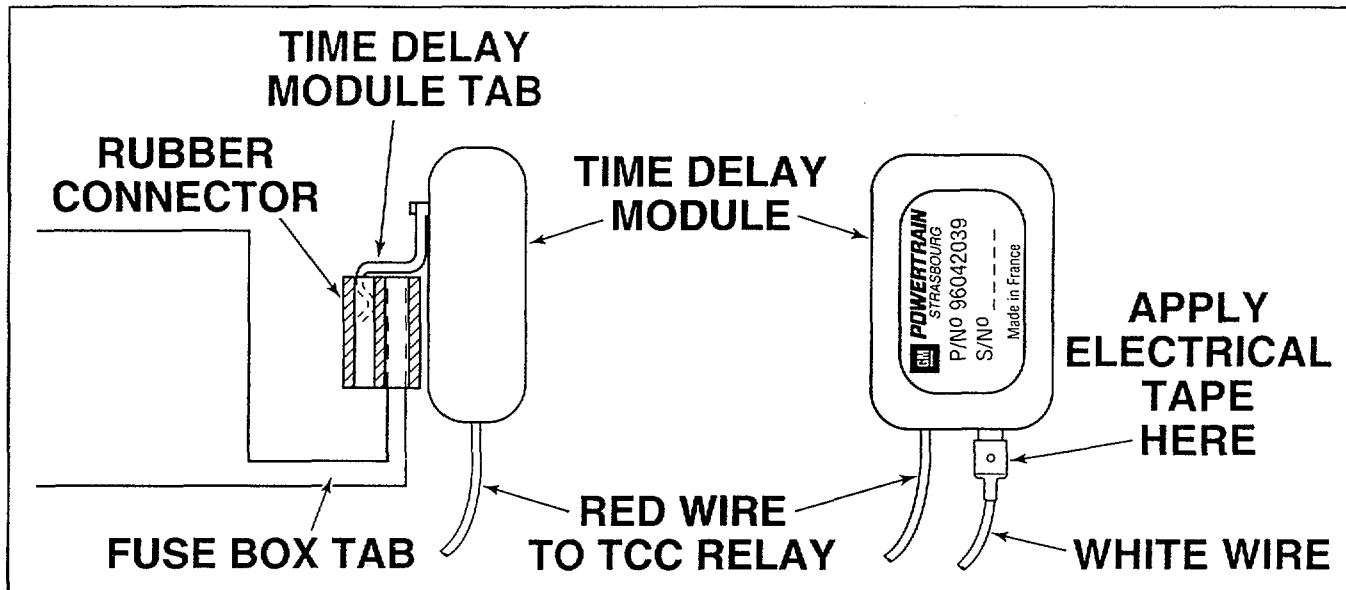

Figure 3
6. Clip the Time Delay Module onto the A/C fan relay. (Figure 3)